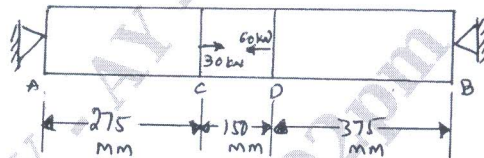

Fig.Q1(c)
- c. A bar of 800 mm length is attached rigidly at A and B as shown in Fig.Q1(c). Determine reaction at both ends and stress in each portion. Bar diameter is 25 mm and Young's modulus  $E = 200$  MPa.